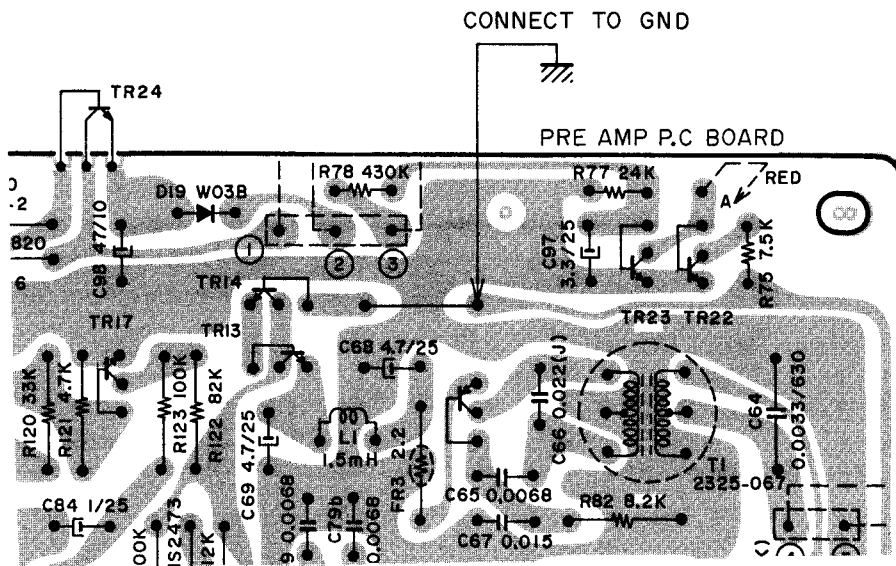

Fig. 14 Rec Peaking Adjustment
4. Ground the base of TR14, as shown in Fig. 14, to stop the Bias Oscillator from oscillating when conducting REC Peaking Adjustment.